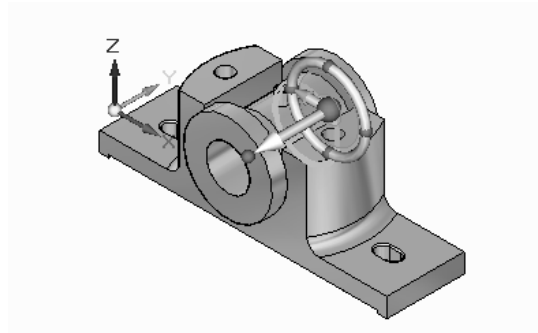

Figure 12-51 *Modifying the next outer cylinders of the **Brasses***
6. Now, select the inner face of the second outer cylinder; the steering wheel is displayed, as shown in Figure 12-51. Click on the primary axis and move the face outward; an edit box is displayed. Next, enter **3** in it; both the second outer cylinders get modified.